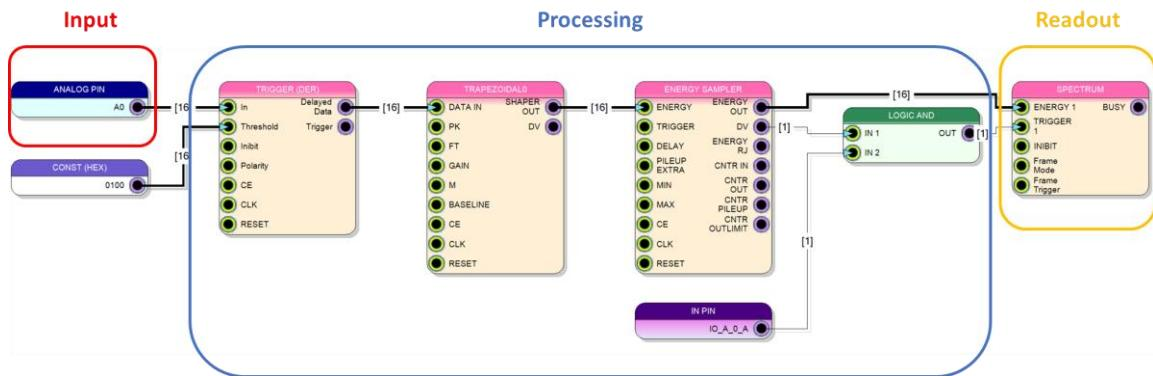

Figure 4.1: the typical structure of a Sci-Compiler project for Digital Pulse Processing.
- **Processing**, i.e., blocks interconnecting each other and making the Realtime Signal Processing. For instance, in **Figure 4.1**, the signal from the input feeds a *Derivative Trigger*, which in turn activates a *Trapezoidal Filter*. The flat top of the trapezoid is sampled by the *Energy Sampler* block and energy of the incoming signal is then measured.
- **Readout**, i.e., blocks to read the results of the Processing and transfer them to the PC as data. For instance, in **Figure 4.1**, a *Spectrum* block is used to read data coming from the *Energy Sampler*. Data are read by the *Spectrum* block when the *Energy Sampler* and an external digital signal on pin **IO_A_0_A** of the board are in coincidence (*Logic AND*).